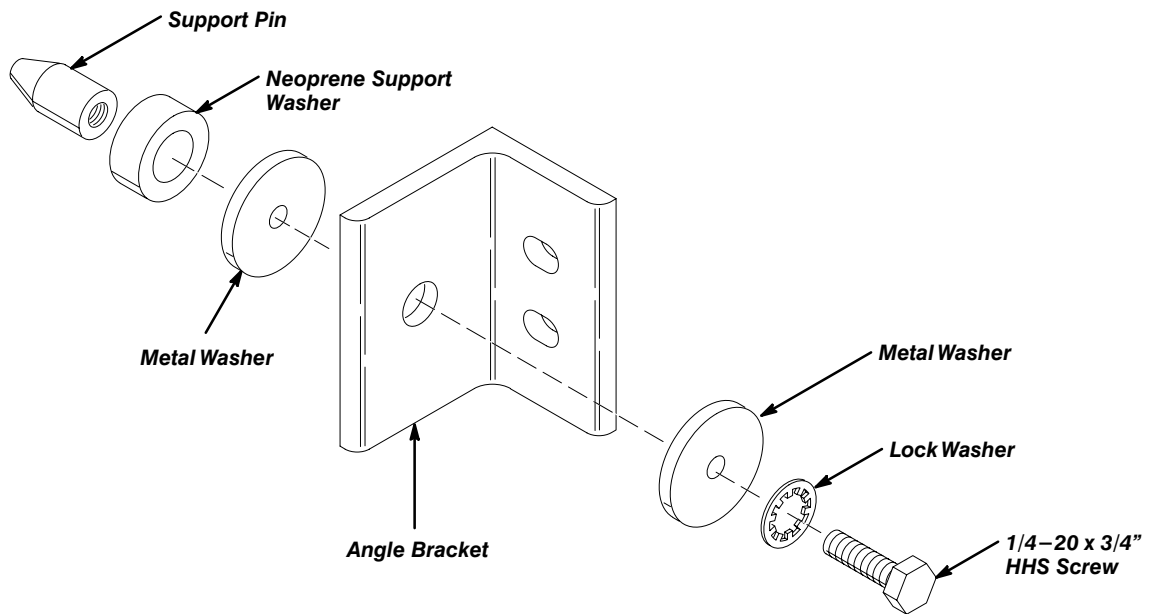

Figure 21: Attaching the Support Pin
2. Attach a support pin to each of the two angle brackets. See Figure 21.